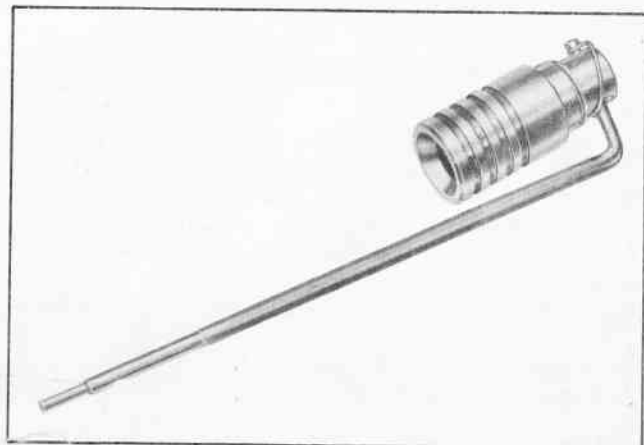

Fig. 9 Step-Up Rod and Piston Assembly
6. Remove two step-up rod and step-up pistons. If desired step-up rod may be separated from piston by unhooking step-up rod retaining spring from end of rod (Fig. 9). Remove two step-up rod piston springs.